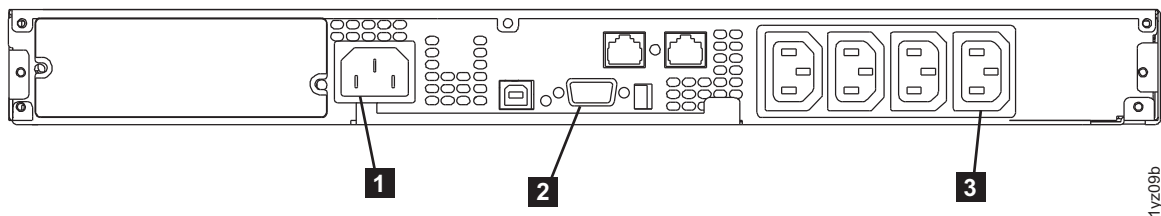

Figure 348. 2145 UPS-1U (rear view)
9. At the back of the 2145 UPS-1U, connect the SAN Volume Controller power cable to load segment 2 receptacle (**3** in Figure 348 on page 416). If applicable, install the power cable-retention bracket (shown in Figure 347).
10. Reconnect the SAN Volume Controller signal cable to the communication port (**2** in Figure 348 on page 416).
11. Reconnect the 2145 UPS-1U main power cable, from either the power distribution unit or from the redundant AC-power switch, into the input connector (**1** in Figure 348 on page 416).
The 2145 UPS-1U is now in standby mode with the SAN Volume Controller offline. All indicators that are shown in Figure 348 are off.